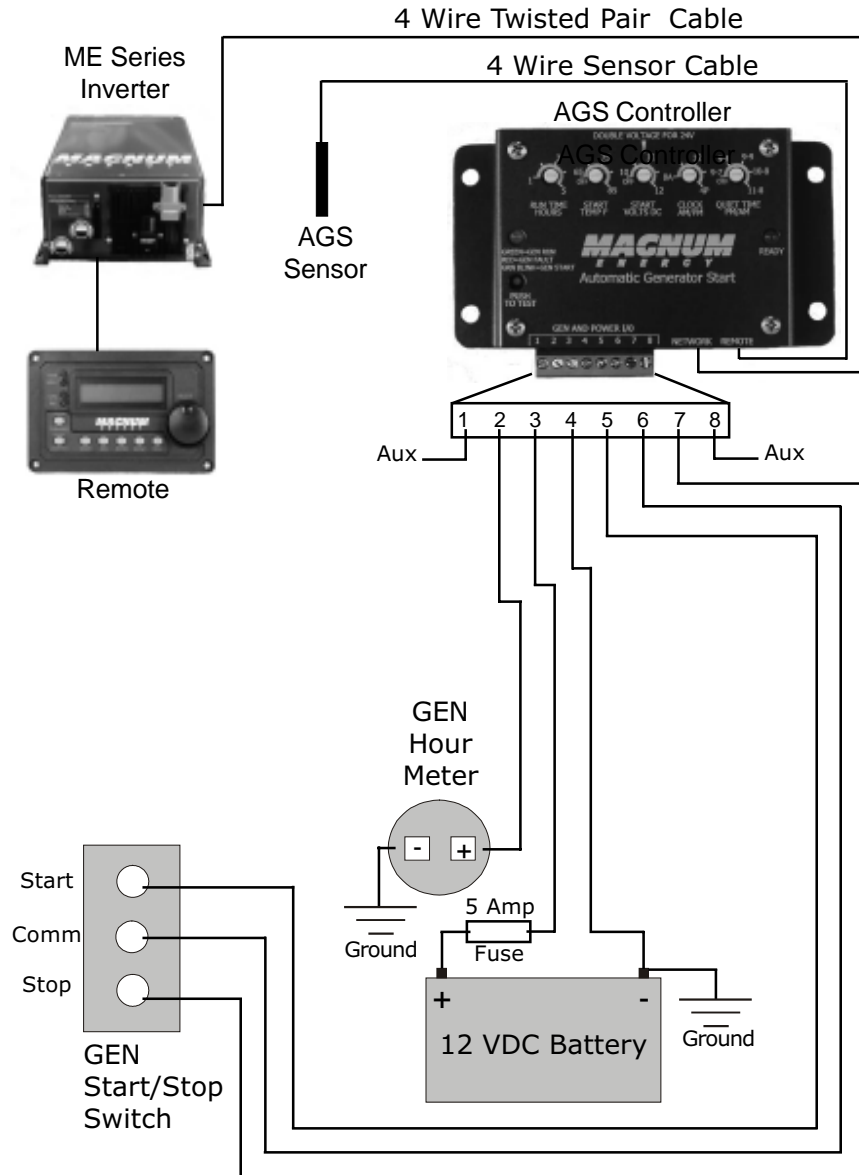

Figure 3 - AGS Wiring Diagram
2. Remove the 8 pin connector from the controller by pulling it straight out. Wire the controller according to Figures 3 and 4 (see pages 8 and 9).